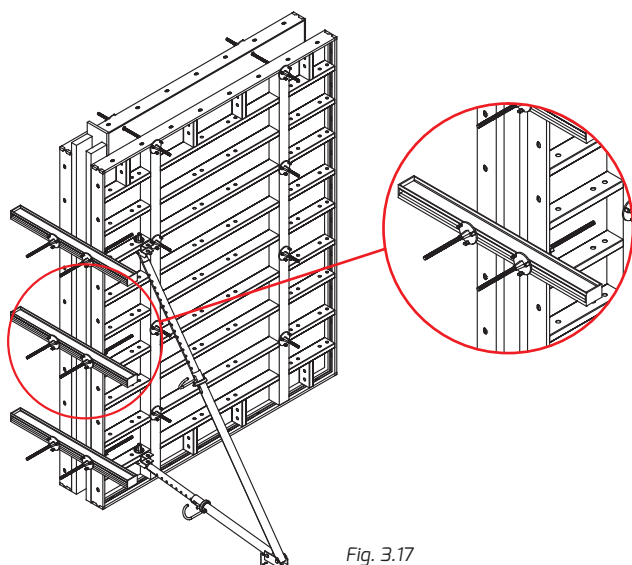

Fig. 3.17
- by using the tightening beams working together with the straight or centring bowstrings, nuts and plywood, and the construction timber (fig. 3.17);